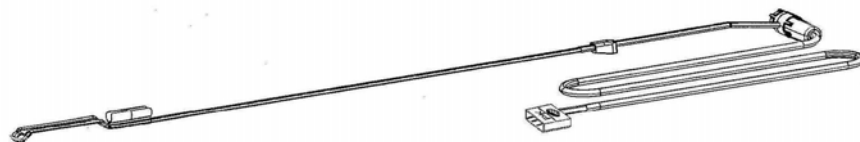

Fig 1.2
- A suitable Gyrus ACMI Urology Electrode (e.g. PK Plasma Sect, PK SuperSect, Superloop and PK Button) (see Fig 1.2)
The resectoscope Instruments (figure 1.2) are designed to be used in conjunction with the PlasmaKinetic™ resectoscope which is designed to accept the instrument which is connected directly to the connector cable rather than to the resectoscope. Typical use of these types of instruments would be in the surgical treatment of benign prostatic hyperplasia.